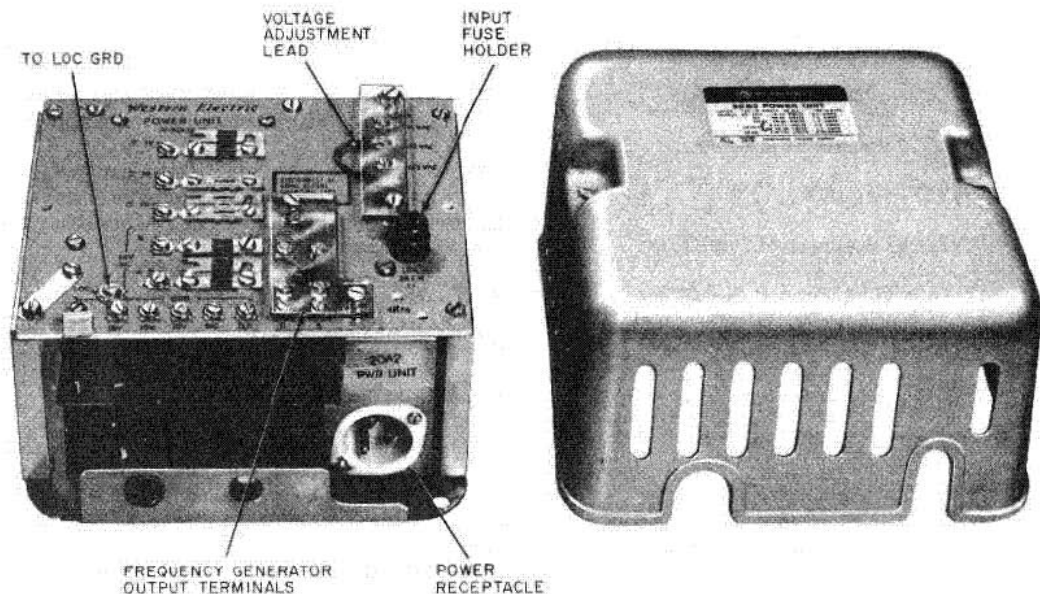
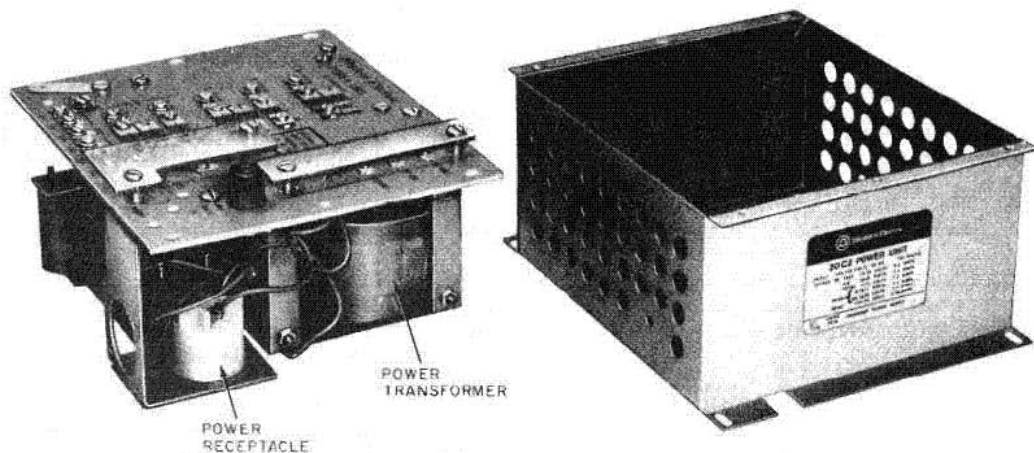

Fig. 3—20B2 Power Unit (Wall Mounted) Cover Removed
Fig. 4—20C2 Power Unit (Rack Mounted) Enclosure Removed to Show Power Receptacle
- (1) Fasten the backboard plate assembly, P33A830, to the wall as covered in Section 463-130-200, or in accordance with local instructions.
- (2) Hang the power unit on the backboard and secure it with the machine screws provided.
- 3.03** The 20C2 power unit is mounted on an equipment rack using the four mounting holes on the metal enclosure (Fig. 4). Fasten with the machine screws provided.
- 4.03** Place wiring (supplying telephone equipment) through the plastic grommet at the bottom of the 20B2 unit (Fig. 3) and through the slot provided on the mounting flange on the 20C2 unit (see Fig. 4). Dress the wires along the left side of the panel and below the ground terminals.